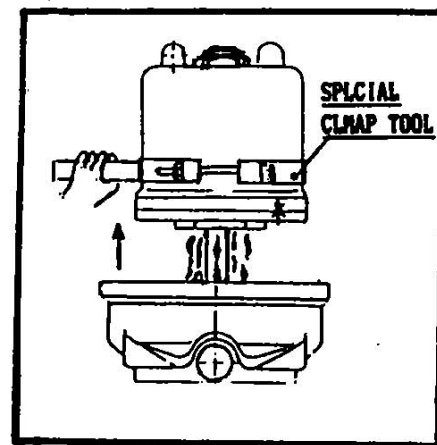

Fig.3.13
2. Lift rotor by about 60 mm; and allow oil in the rotor to drain in the lower housing. Put back rotor in its position with the special clamp tool still on (Fig.3-13).